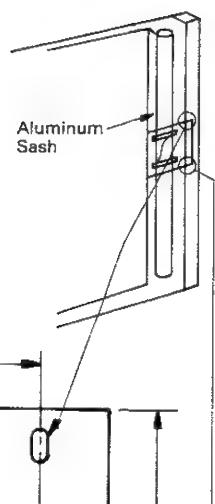
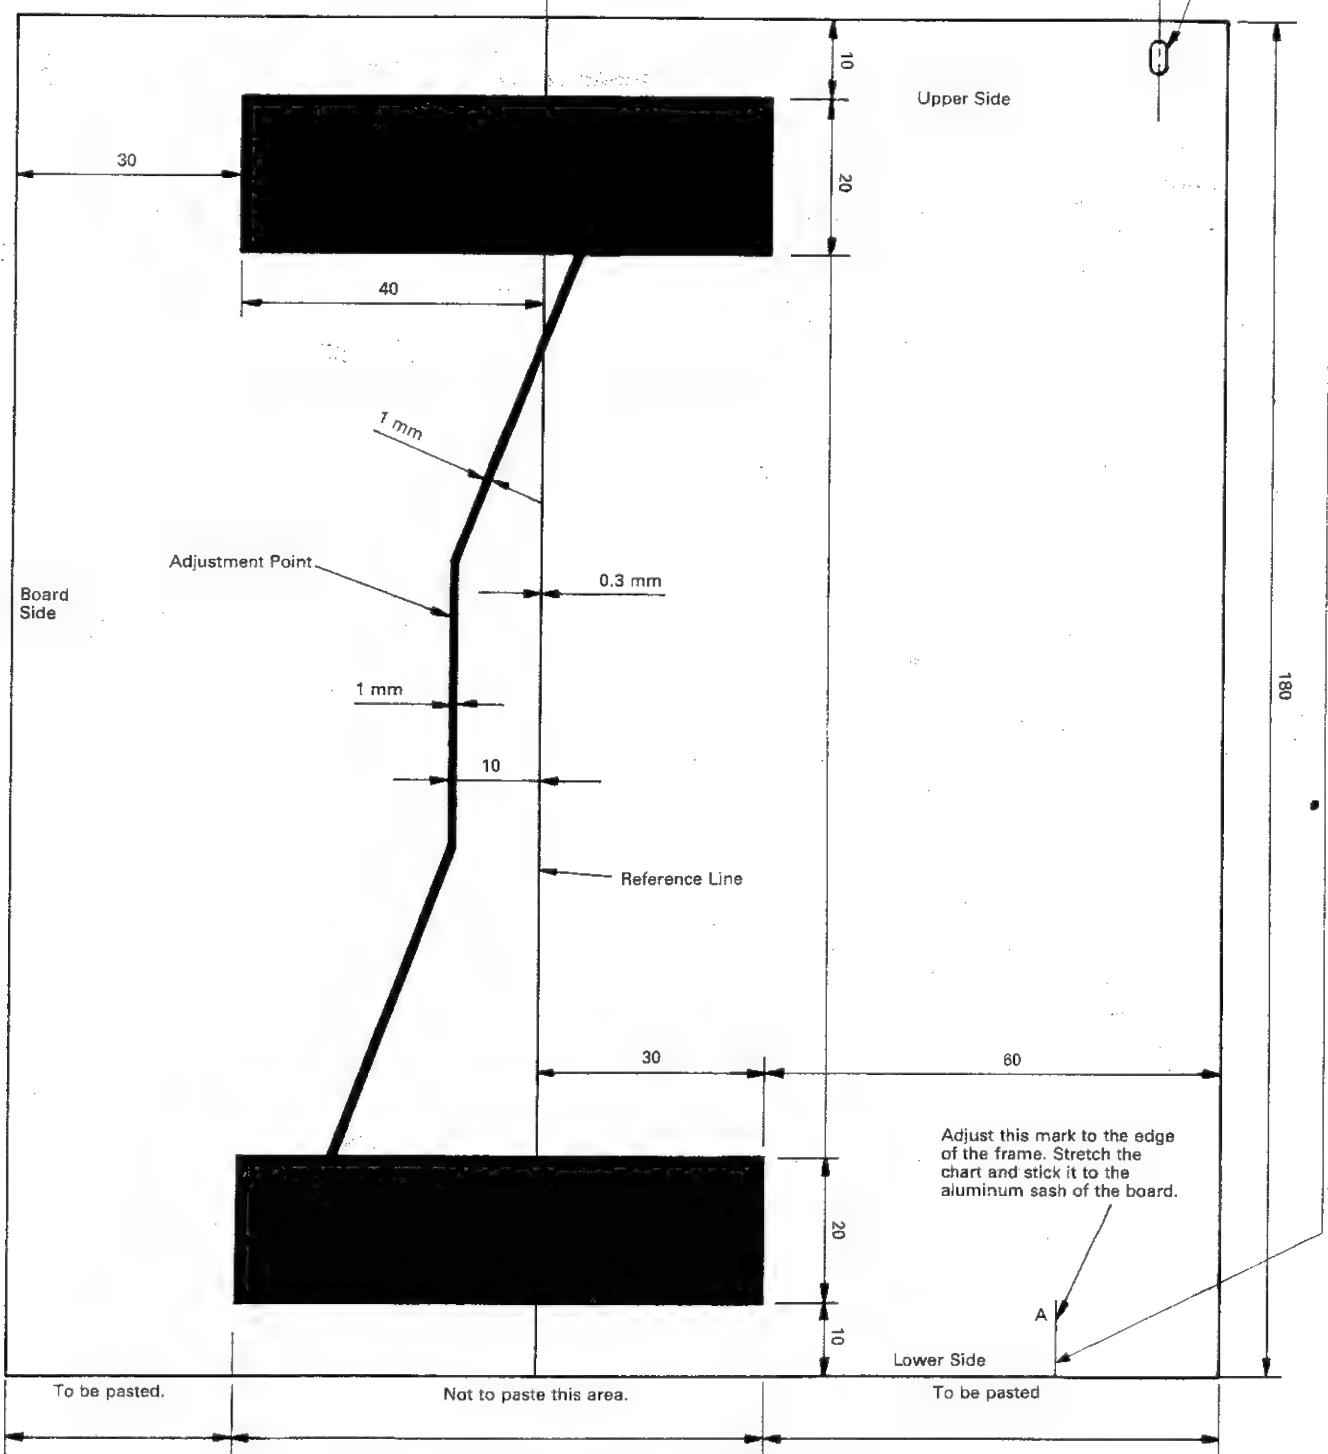

Figure 13-1
Figure 13 Chart for Positional Adjustment
- (1) Remove the rear cover and install the printer.
- (2) Attach the adjustment chart in such way that the marks A-A shown in Figure 13 will come precisely to the edges of the frame as shown in Figure 13-1.
- (3) Attach the "BOARD" of the chart at the other side of A-A marks to the inside of the aluminum sash while avoiding slackness.
- (4) Turn on the power switch and make initial setting.